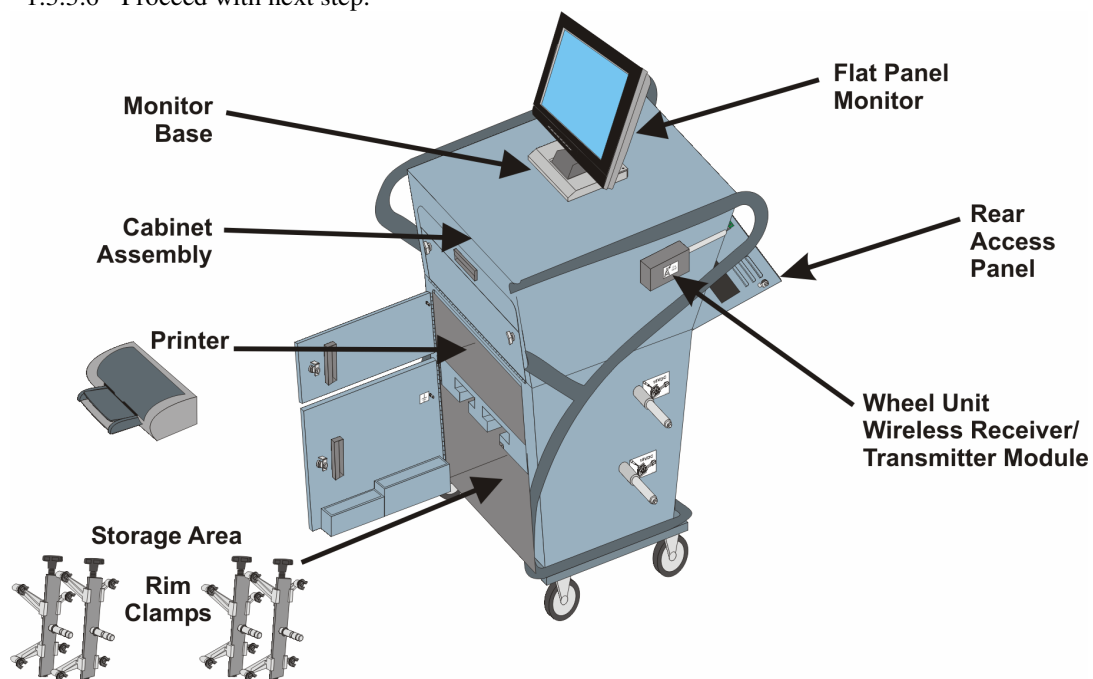

Figure 1-5. Cabinet Assembly – Component Storing.
- 1.3.1 The equipment that was unpacked from each shipping container must now be installed or stored on the cabinet. Use Figures 1-5 and 1-6 as guides, as needed.
- 1.3.4.4 Remove the wheel unit's wireless receiver/transmitter module from inside the cabinet, and attach magnetic base of the module to the side of the cabinet (as shown in Figure 1-5). Ensure the cable for the module is properly routed through the grommet opening, on the panel to avoid being pinched or damaged.